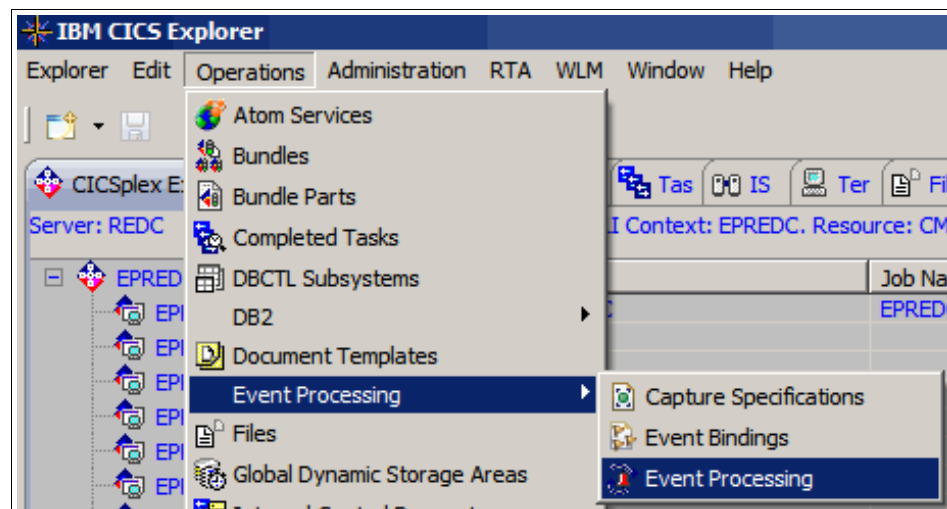

Figure 4-6 Controlling event processing
2. Using the IBM CICS Explorer toolbar, click **Operations > Event Processing**. The current status of event processing is displayed. See Figure 4-6.